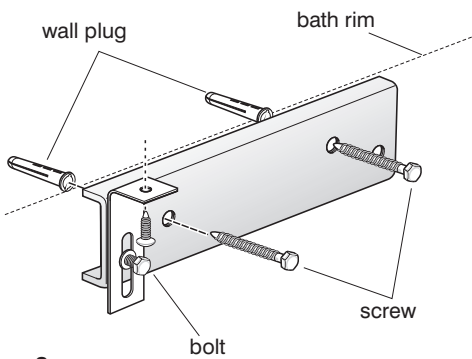

**Figure 6**
7. Pre fit front panel ensuring that the ends of the panel are vertical. Mark a line along the front of the panel on the floor. Remove panel and fix the plastic panel clips onto the floor/wall(s) (Figure 6). The front of the clip at the floor should be 3mm back from the marked line.